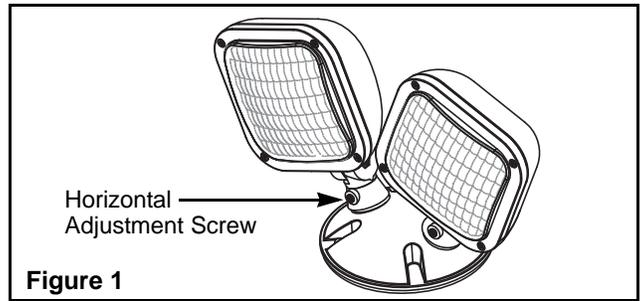
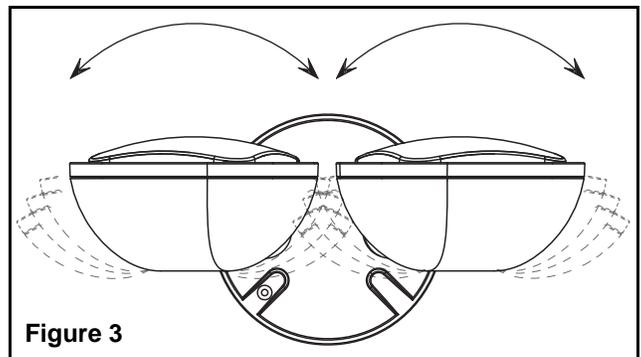
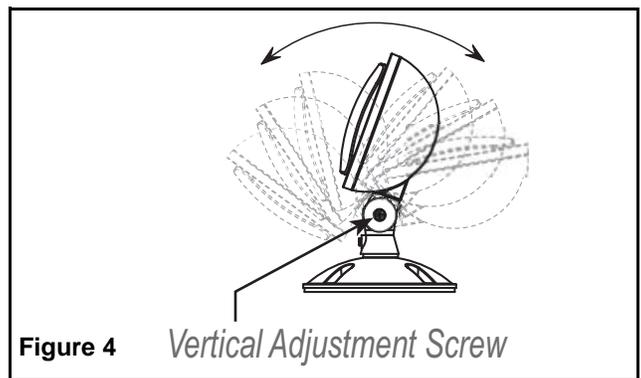

Figure 1
Figure 3
Figure 4
7. Heads can be rotated sideways (see fig.3) by loosening the horizontal adjustment screw (fig.1) or tilted up/down by loosening the vertical adjustment screw (fig.4).